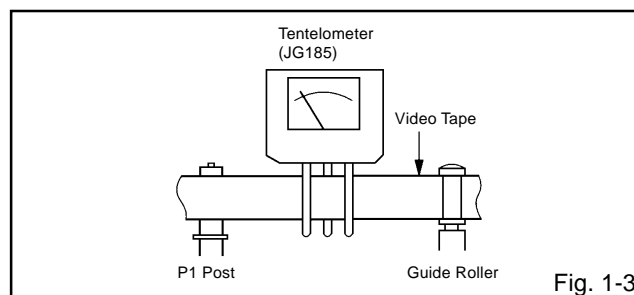

Fig. 1-3
- Install the tentelometer (**JG185**) as shown in **Fig. 1-3**. Confirm that the meter indicates 20 ± 2 gf in the beginning of playback.
- After confirmation and adjustment of Tension Post position (Refer to item 1-2), load the cassette type torque tape (**JG100A**) and set to the PLAY mode.